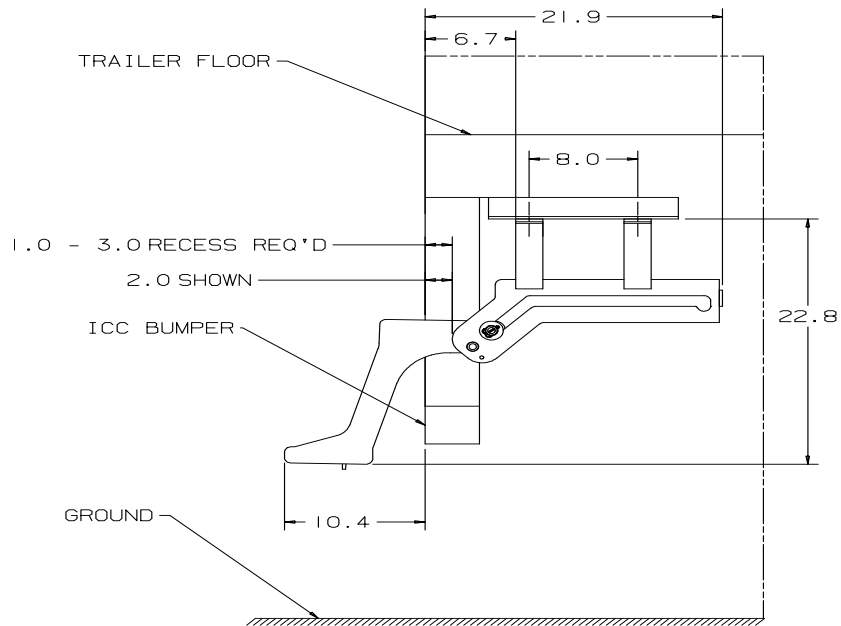

Fig 2
- 2.) Place step in the opening. The step must be recessed at minimum 1" so the step won't get damaged when the trailer is backing up to a dock. Do not recess step more than 3" as this will cause interference with the ICC bumper and make the step inoperable. See figure 2